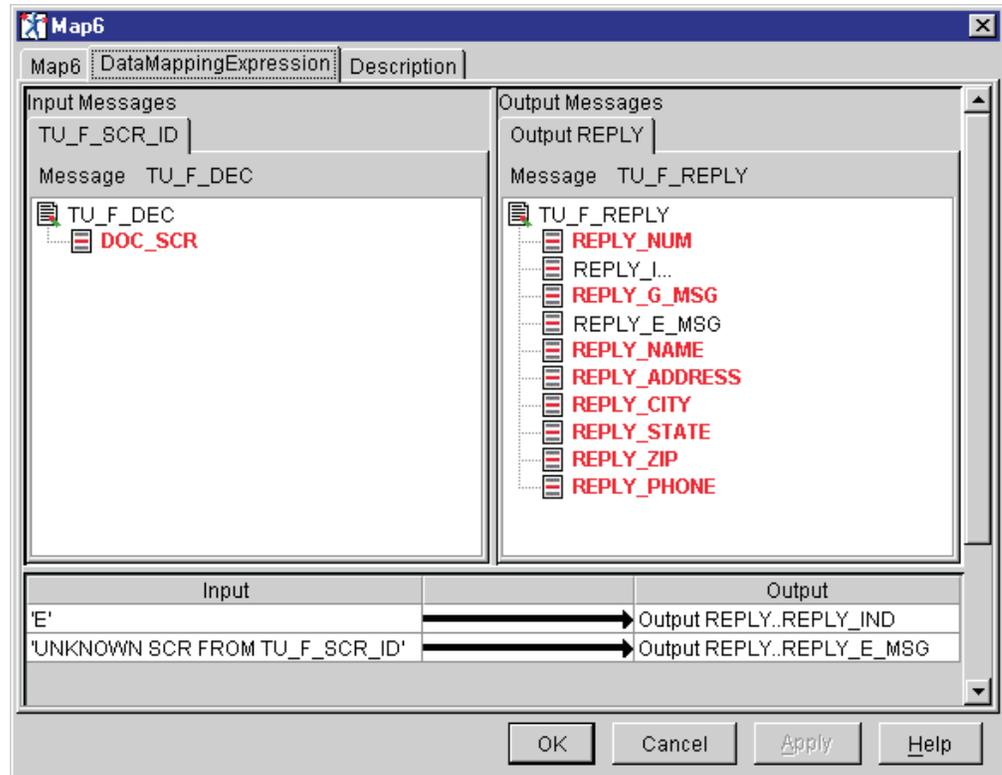

Figure 174. Mapping for Map6 node
- 6) Perform the mapping for the Map6 node as listed in Table 71 and shown in Figure 174 on page 223.